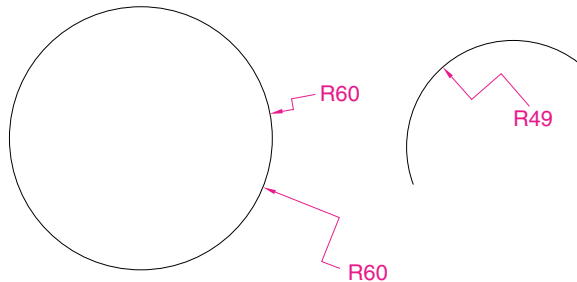

Fig. 6.20 Examples – the **Jogged** tool
The Jogged tool (Fig. 6.20)
1. Draw a circle and an arc as indicated in Fig. 6.20.
The results of placing a jogged dimension on a circle and an arc are shown in Fig. 6.20.